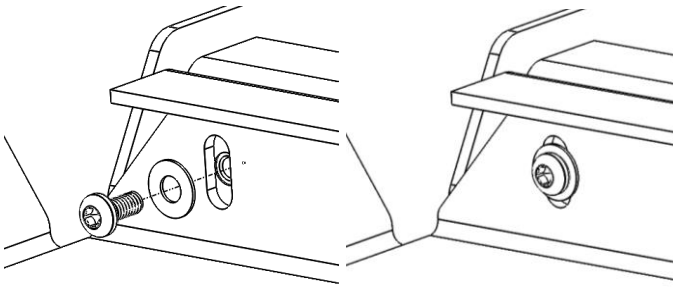

Figure 4: Example of Bolt Through Panels
3. Bolt the panels together using the provided #10-32 x 3/8" bolt and washer. While tightening, ensure panels are flush with one another. Reference Figures 4, 5, & 6 for more detailed information.